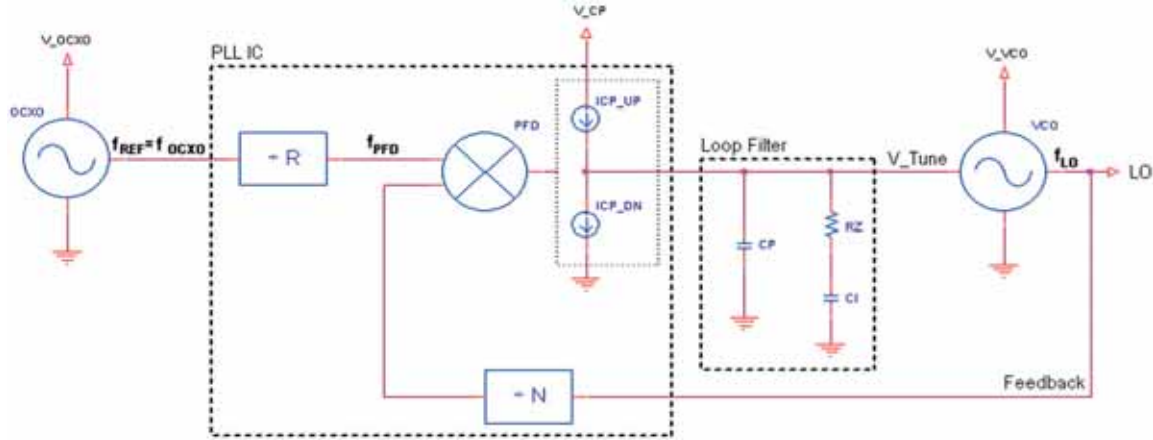

Figure 1: Basic building blocks of a PLL
Figure 1 shows the building blocks of a PLL system used for generating an LO signal. The PLL integrated circuit (IC) usually contains all clock dividers (R and N), phase/frequency detector (PFD) and the charge pump, represented by the two current sources, ICP_UP and ICP_DN.
The PLL shown in Figure 1 is called an integer-N PLL because the feedback divider (the N-divider) can only assume integer values. When this divider assumes both integer and non-integer values the loop is called a fractional-N PLL.
The PLL system of Figure 1 acts as a low-pass filter on the reference clock phase noise and as a high-pass filter on that of the VCO. The low-pass and high-pass filter cutoff frequency is defined by the loop bandwidth (LBW) of the PLL. Ideally, the LO phase noise follows that of the reference clock converted to the LO frequency (that is, multiplied by N/R) up to the LBW and subsequently follows the phase noise of the VCO. The PLL IC's noise contribution elevates the phase noise in the transition area.
Any unwanted signal on the power supplies shown in Figure 1 (V_OCXO, V_CP and V_VCO) can translate into a spurious signal (spurs) on the LO signal. Careful design of these supplies greatly reduces or even eliminates these spurs. Charge pump related spurs are, however, inevitable. But, they can be reduced with careful PLL system design.
In steady-state operation the PLL is locked and, theoretically, there is no longer a need to engage the ICP_UP and ICP_DN current sources of Figure 1 during every PFD